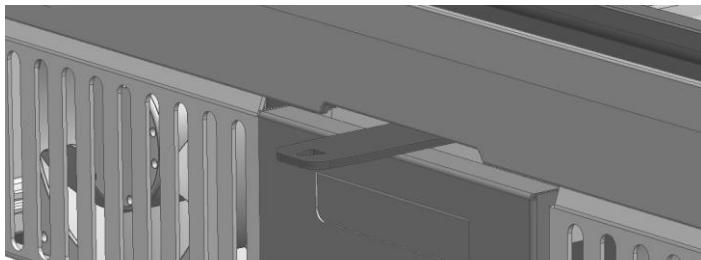
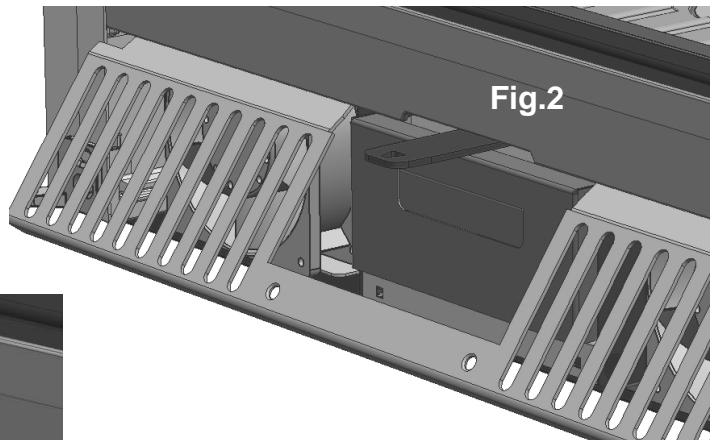

Fig.1
Fig.2
1. Release the front grille by loosening the two screws at the bottom (Fig.1 and Fig.2)